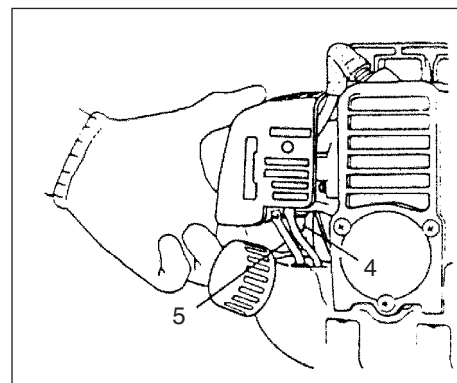
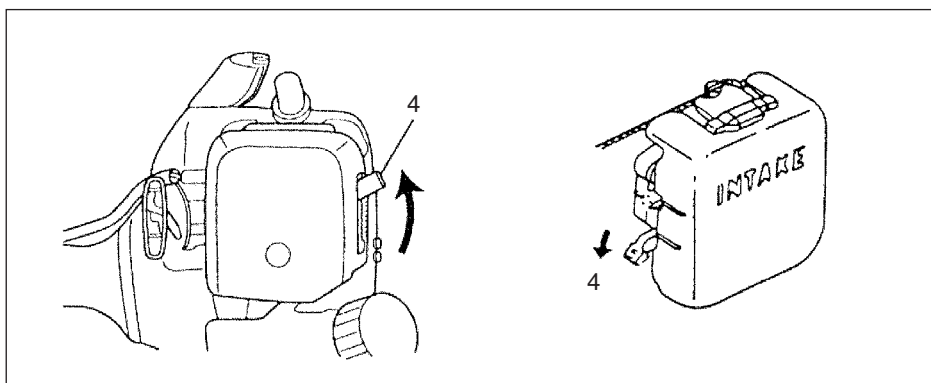

Fig. 2-2C
Fig. 2-3
*Push priming bulb (4) several times so that fuel flows through return pipe (5) (if so equipped)(Fig. 2-2C)
2. With the safety trigger (2) pressed (if so equipped), pull throttle trigger and push throttle lock (3), then slowly release the throttle trigger first, then the safety trigger. This will lock the throttle in starting position.
3. Set choke lever to CLOSED position (4). (Fig. 2-3)